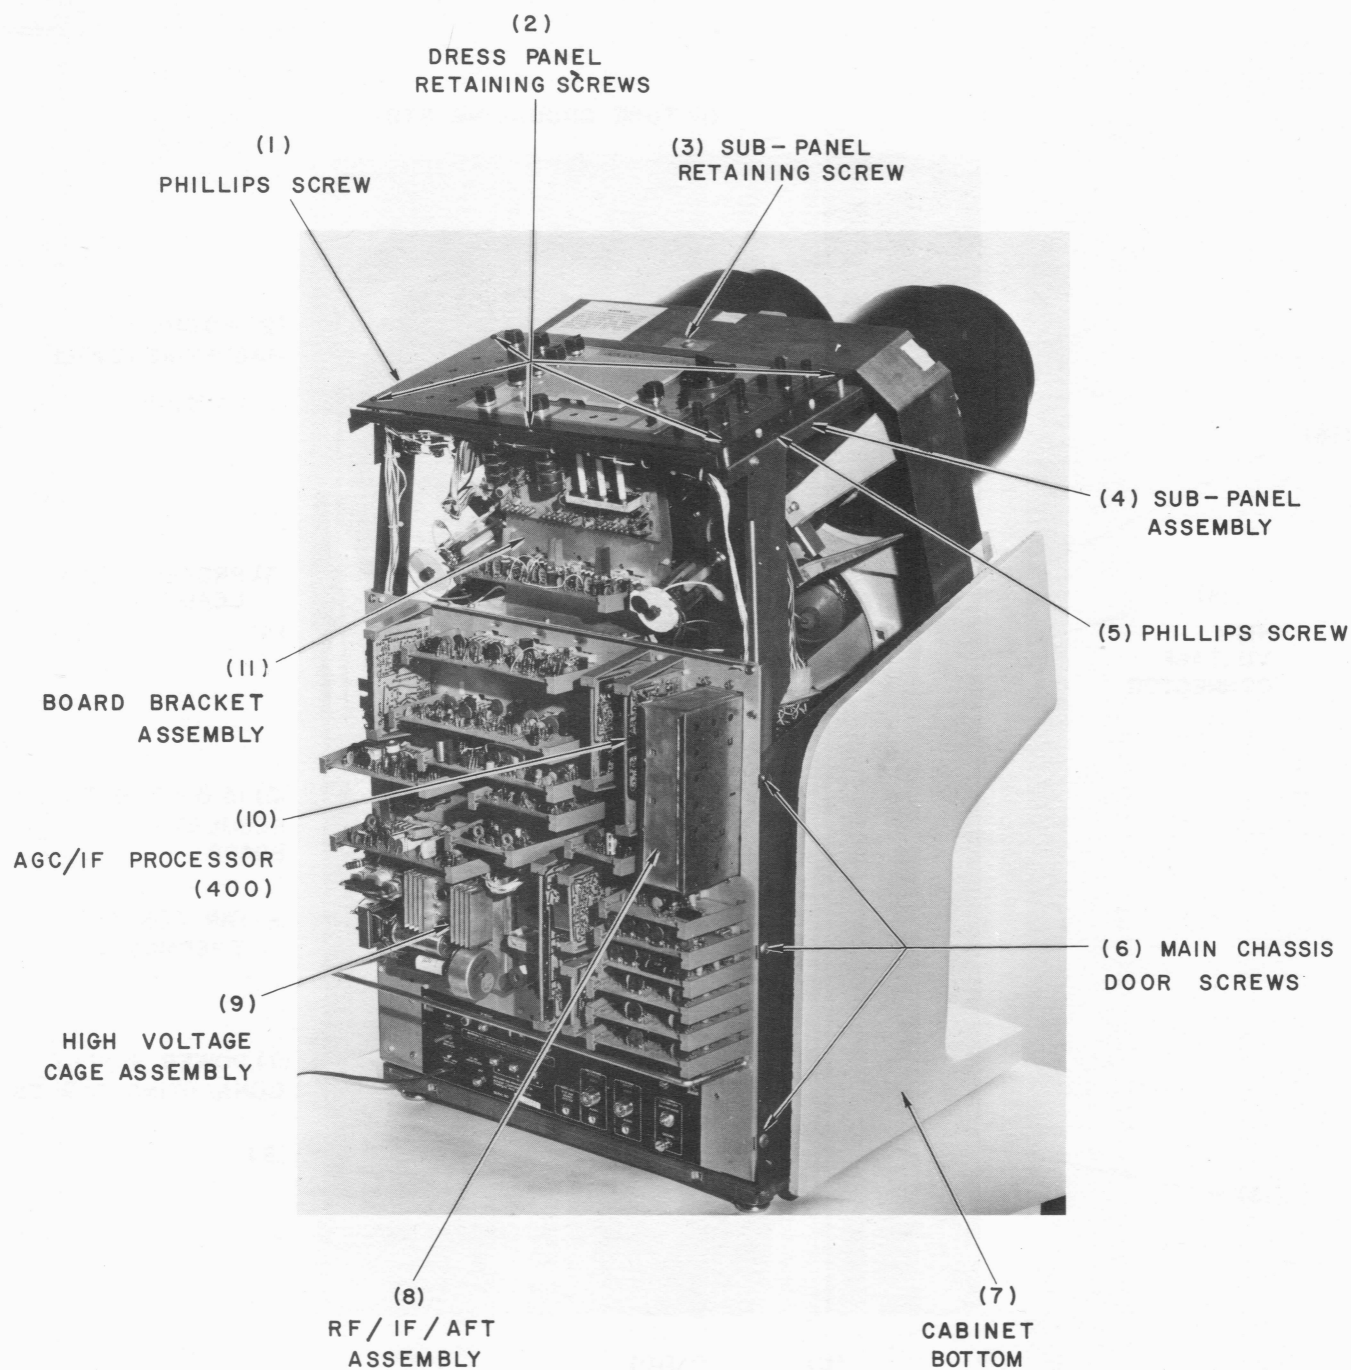

Figure 4-4. SIDE VIEW WITH CABINET TOP REMOVED
1. Remove sub-panel retaining screw (3, Figure 4-4).
2. Remove Main Chassis Door Screws (6, Figure 4-4).
1. If the door is closed, remove the sub-panel retaining screw (3, Figure 4-4).
3. Remove one hex head screw (1, 5, Figure 4-4) from each side of the sub-panel assembly.
3. Remove the five (5) dress panel retaining screws (2, Figure 4-4).
4.12 REMOVING CABINET BOTTOM (7, Figure 4-4)
6. Remove the Cabinet Bottom (7, Figure 4-4) by gently pulling forward from the front of the receiver.